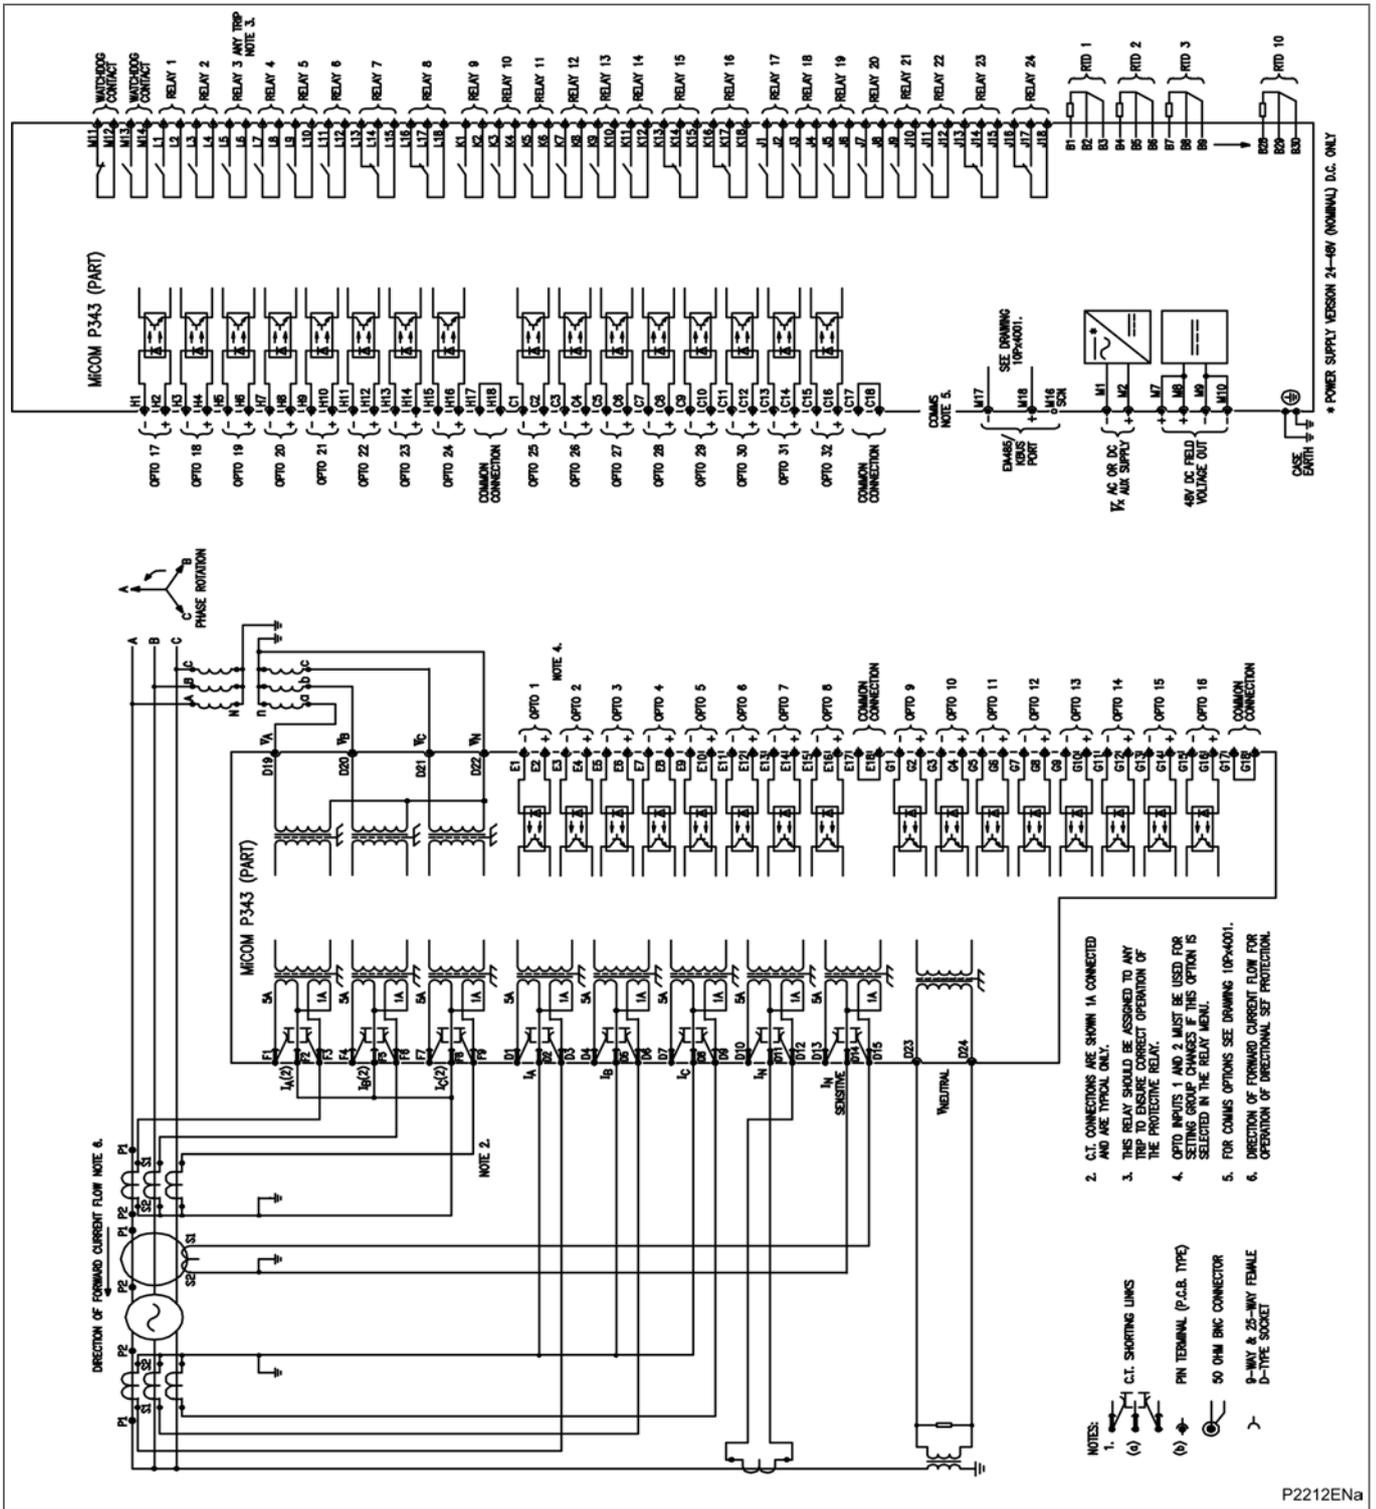

Figure 66 - P343 (80TE) with biased differential (32 I/P & 24 O/P & RTDs)
- Figure 66 - P343 (80TE) with biased differential (32 I/P & 24 O/P & RTDs)